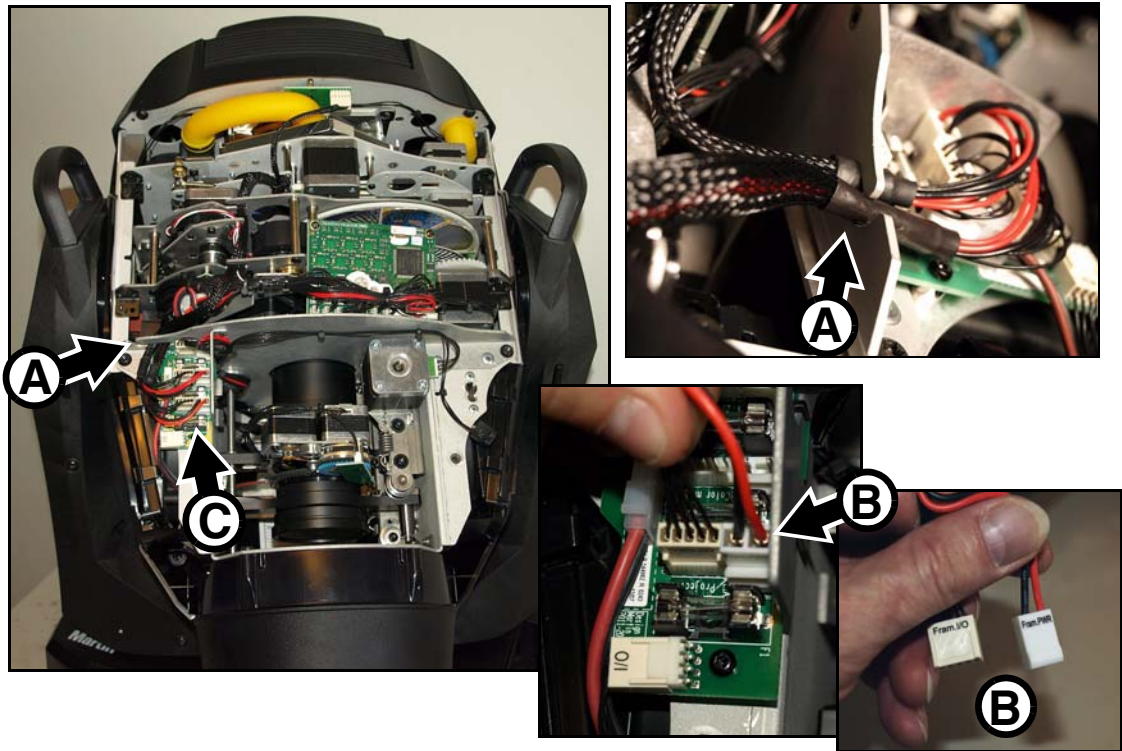

Figure 14: Disconnecting the framing module
2. See Figure 14. Unhook the module wiresets from their cutout **A** in the zoom/focus module chassis, then unplug the two framing connectors **B** from the **Projection** sockets and the color mixing module connectors from the **Color Mixing** sockets on the module interface PCB **C**.